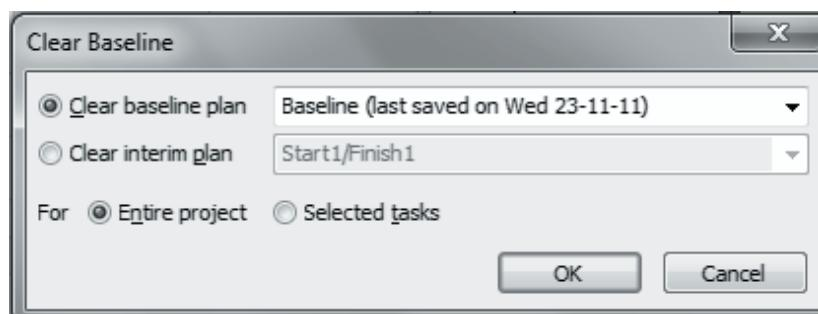

Figure 9.4: Clear Baseline Settings
4. From the **Clear Baseline** Plan drop-down list, choose the baseline to clear as shown in figure 9.4.